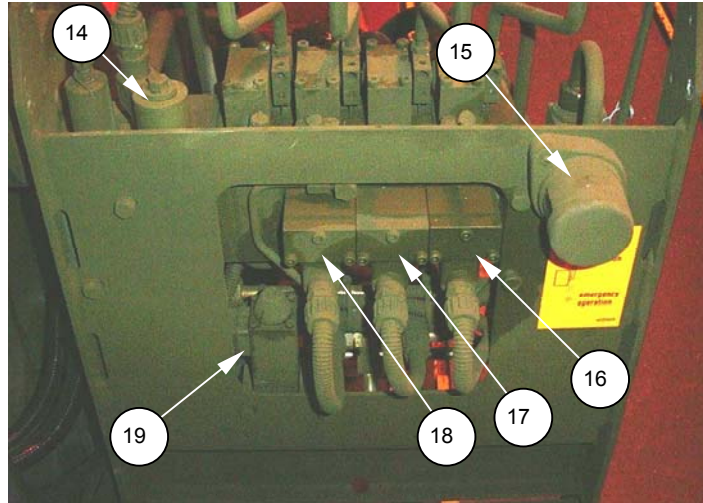

Figure 2 CRANE ELECTRICAL COMPONENT LOCATIONS VIEW A
**Table 2 for Figure 2 View A**